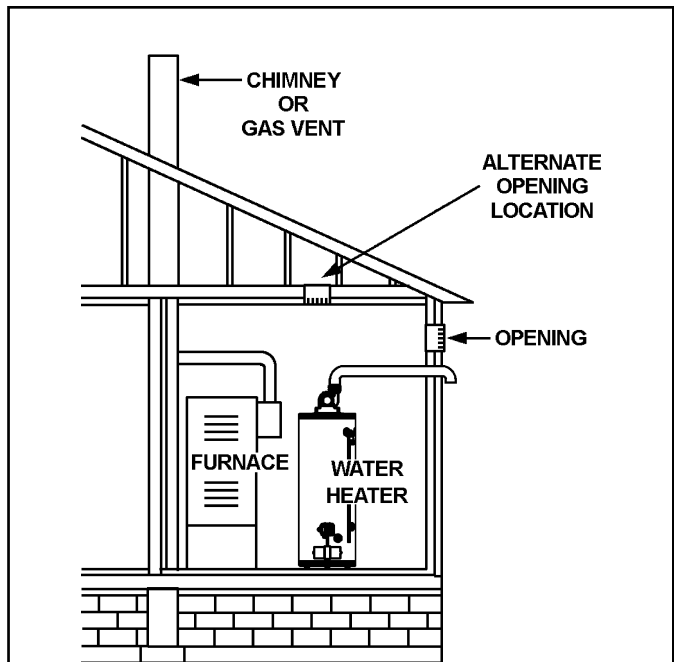

Figure 21.
- Alternatively a single permanent opening may be used when communicating directly with the outdoors, or with spaces that freely communicate with the outdoors. The opening shall have a minimum free area of 1 square inch per 3,000 Btu/hr of total input rating of all equipment in enclosure (see Figure 21).